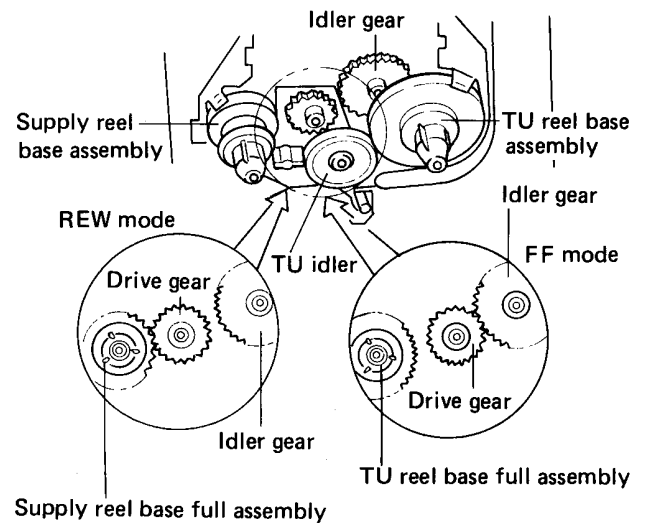

Fig. 7-4 FF (REW) solenoid adjustment
2. Loosen screws ① and adjust the FF solenoid mounting position so that the square hole of the reel base full assembly is flush against the boss of the driving arm full assembly (i.e. 0 separation) as shown in Fig. 7-4.
2. Loosen screws ② and adjust the REW solenoid mounting position so that the square hole of the reel base full assembly is flush against the boss of the driving arm full assembly (i.e. 0 separation) as shown in Fig. 7-4.